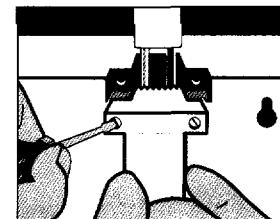

Figure 3
3. Replace the cover plate making sure the grip edge is firmly pressed against the cable. (see figure 3)